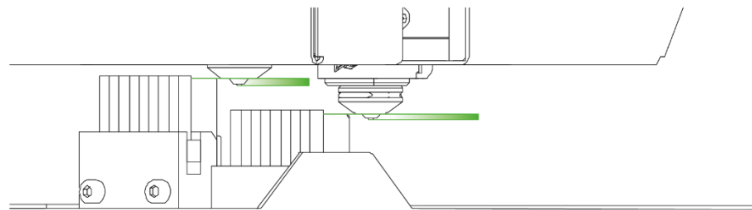

Fig. 12 Cleaning station slats properly adjusted in relation to the module nozzles
4. Visually check if the cleaning station slats are correctly adjusted with respect to the nozzle in the printing module. When properly adjusted, the nozzle cover is gently in contact with the cleaning station's slat (Fig. 12).
- in the case shown in Fig. 12, the cleaning station should be raised,
4. Check again that the cleaning station slats are well adjusted relative to the corresponding printing module nozzle (Fig. 12).